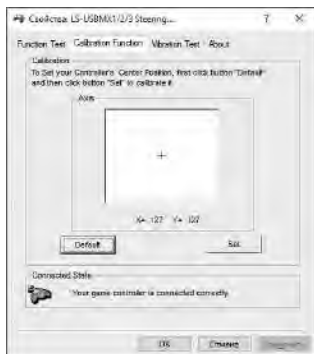

Fig. 10
- In the «Calibration» tab, the steering position can be centered (Fig. 10). To do this, set the steering wheel to the middle position, then press «Default» and «Set». After calibration, you must click «Accept» or «OK» on the bottom line of this window to save the changes.